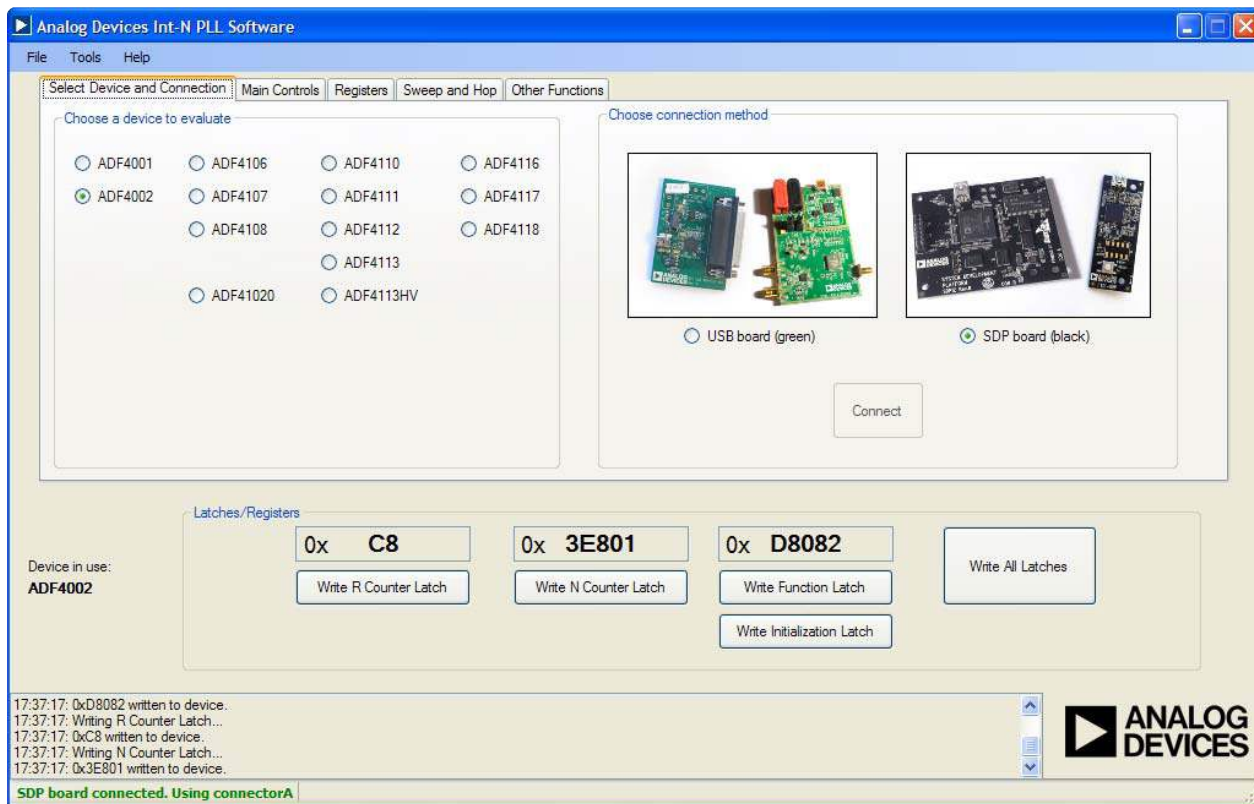

Figure 17. Software Front Panel Display—Select Device and Connection
**connected** is displayed at the bottom left of the window (see Figure 17). Otherwise, the software has no connection to the evaluation board.